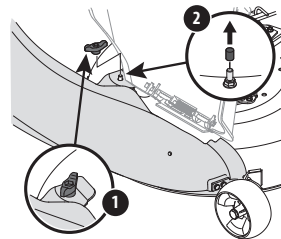

Figure 17
3. Secure the boot to the deck using a wing knob (720-04122) from hardware pack 689-02364. See Figure 17.
NOTE: If present, remove the protective cap off of the mounting stud on the mowing deck as shown in the upper inset of Figure 17.